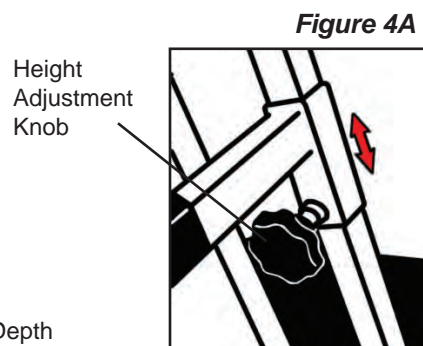

Figure 4A
- Height: Loosen the Arm Rest Height Adjustment Knob and slide the housing along the Arm Rest Adjustment Frame Shaft so that the crossbar of the Arm Rest Frame is positioned comfortably for the user's torso. (See Figure 4A) Retighten the Adjustment Knob.